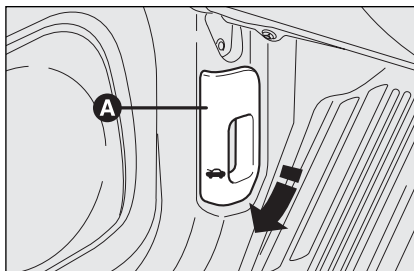

fig. 118
- pull lever **A**-fig. 118 in the direction of the arrow;